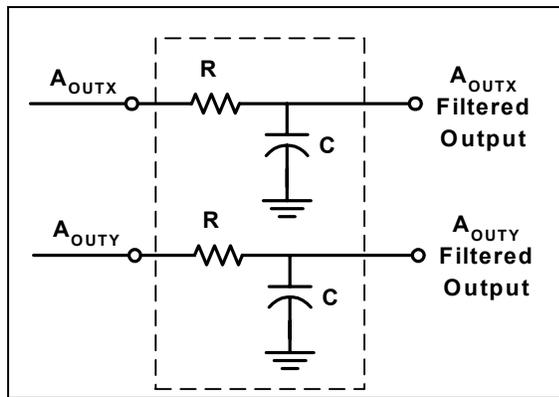

Figure 4: Low Pass Filter
**Low Pass Filter:** An external low pass filter is useful in low frequency applications such as tilt or inclination. The low pass filter limits the noise floor and improves the resolution of the accelerometer. The low pass filter shown in Figure 4 has a -3dB breakpoint given by the equation:  $f = \frac{1}{2\pi RC}$ . For the 200 Hz ratiometric output device filter, C=0.1μF and R=8kΩ, ±5%, 1/8W.